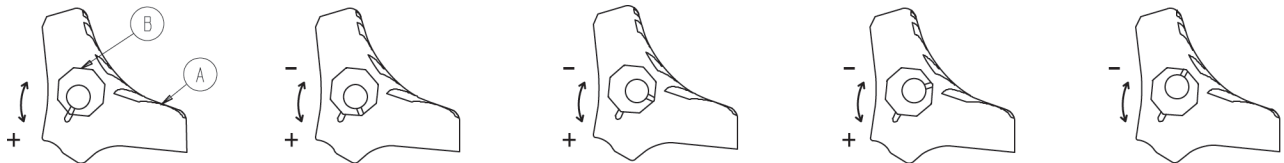

Figure 3 – Wheel locking force adjustment
1. Using the 5/32" hex wrench and 7/16" combination wrench or socket, remove the socket screw from the center of the lock pedal. Save the screw. The wheel lock is initially assembled with the pedal set at the minimum locking force. The marker on the pedal (A) is aligned with the marker on the octagonal sleeve (B) (Figure 3).
2. Remove the octagonal sleeve (B). Rotate the octagonal sleeve counterclockwise to increase the pedal locking force and clockwise to decrease the locking force. Insert the octagonal sleeve into the pedal.